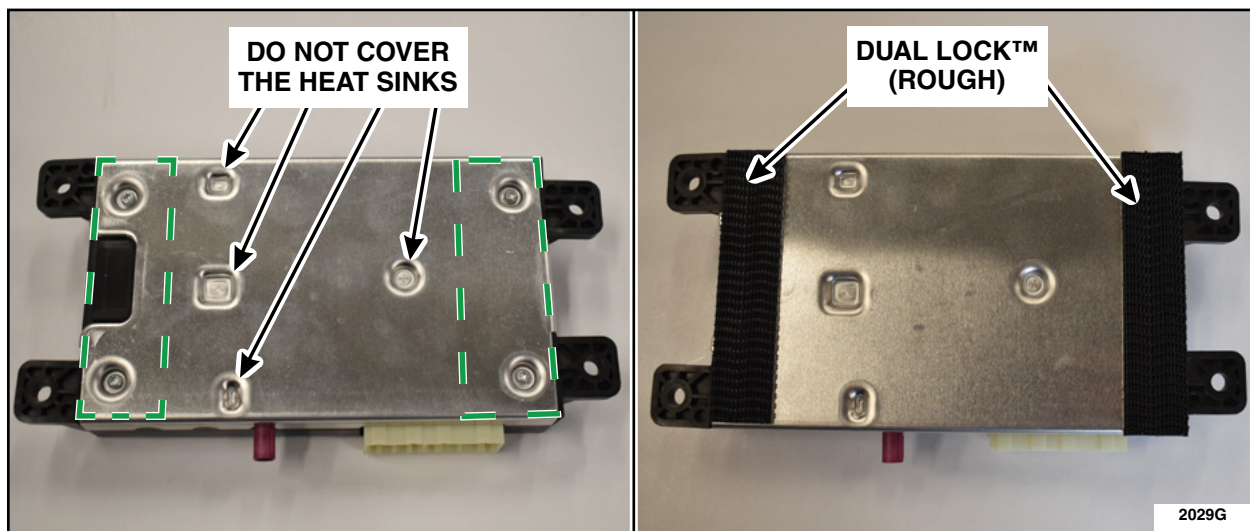

FIGURE 2
3. TCU Preparation. See Figure 2.